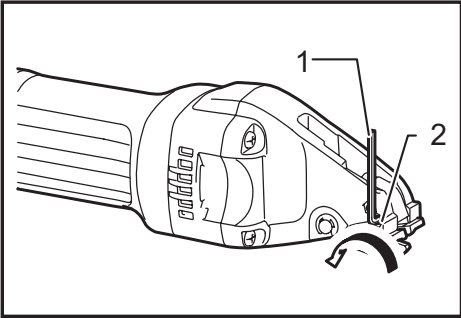

Fig.2
► Fig.2: 1. Hex wrench 2. Screw